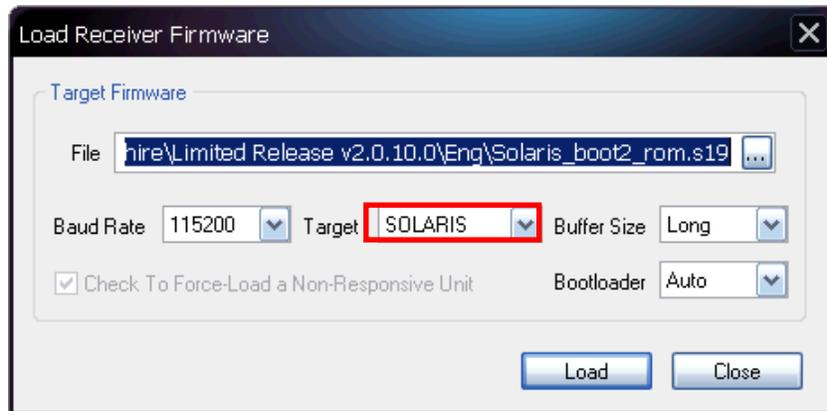

Figure 72: Settings for GNSS Firmware
*Example NAV File:* SPv1,0,0,4.s19 (see Figure 72).
- Select SOLARIS to upload GNSS [firmware (see Figure 72).